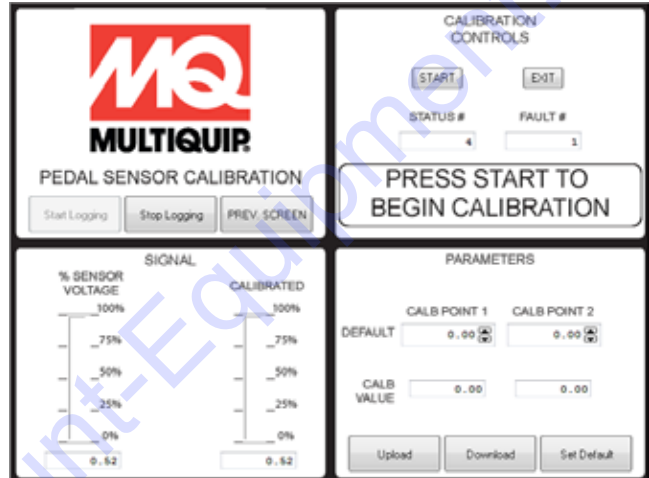

Figure 23. % Sensor Voltage
1. Read % sensor voltage. If 15% to 25%, skip to calibration section. Otherwise, continue with next step to adjust sensor (Figure 23).